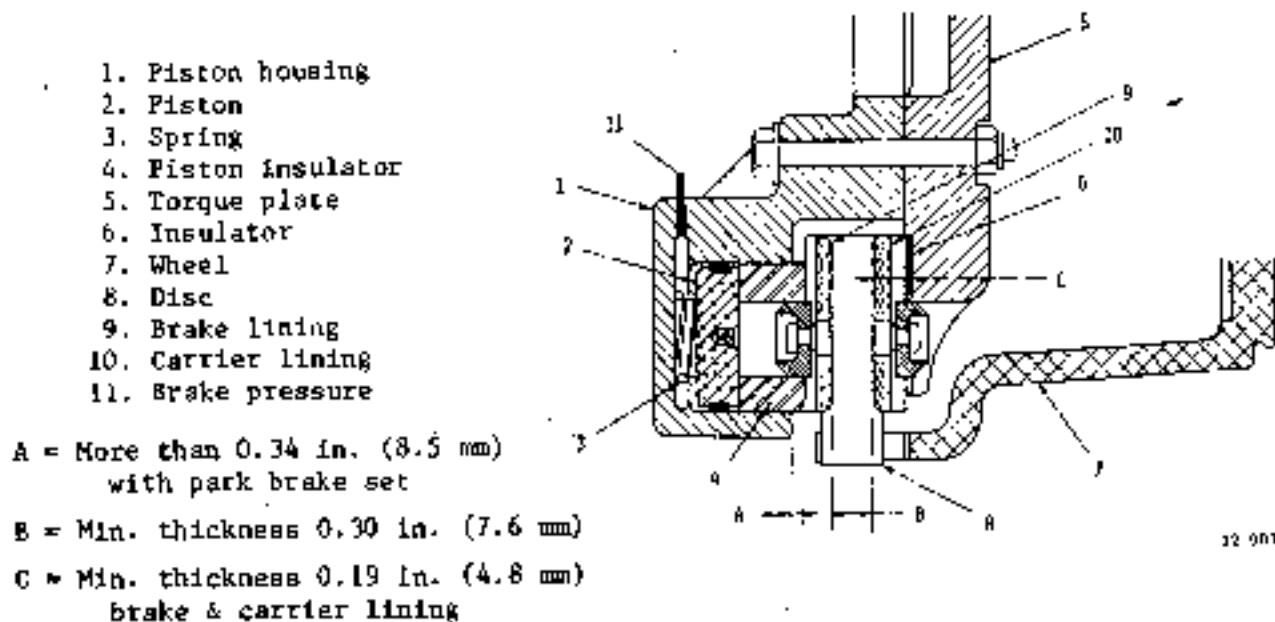

Fig 4-61 Brake lining wear
7.7.1 DISC LINING LIMIT AND REPLACEMENT (See Fig 4-61)